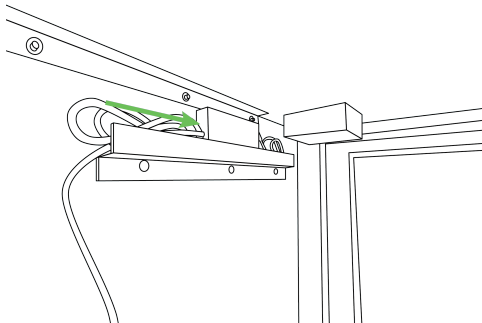

Figure 6-25. Power brick secured inside the box
2. Slide the Elo Touchscreen power brick into the cord management shelf on top of the left wall of the compartment (Figure 6-25).